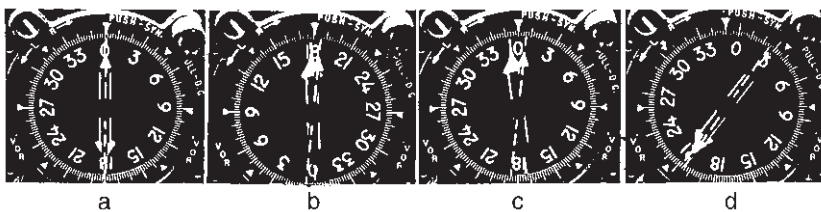

Figure 17-49
24. Refer to figure 17-49. Which is an acceptable operational check of dual VORs using one system against the other?